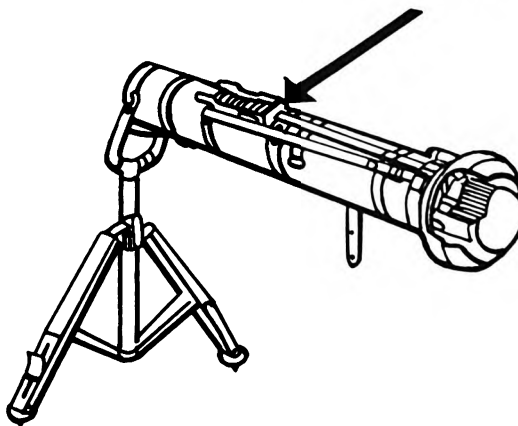

Figure 5.
5. Remove the electrical connector cover from the round (figure 5).